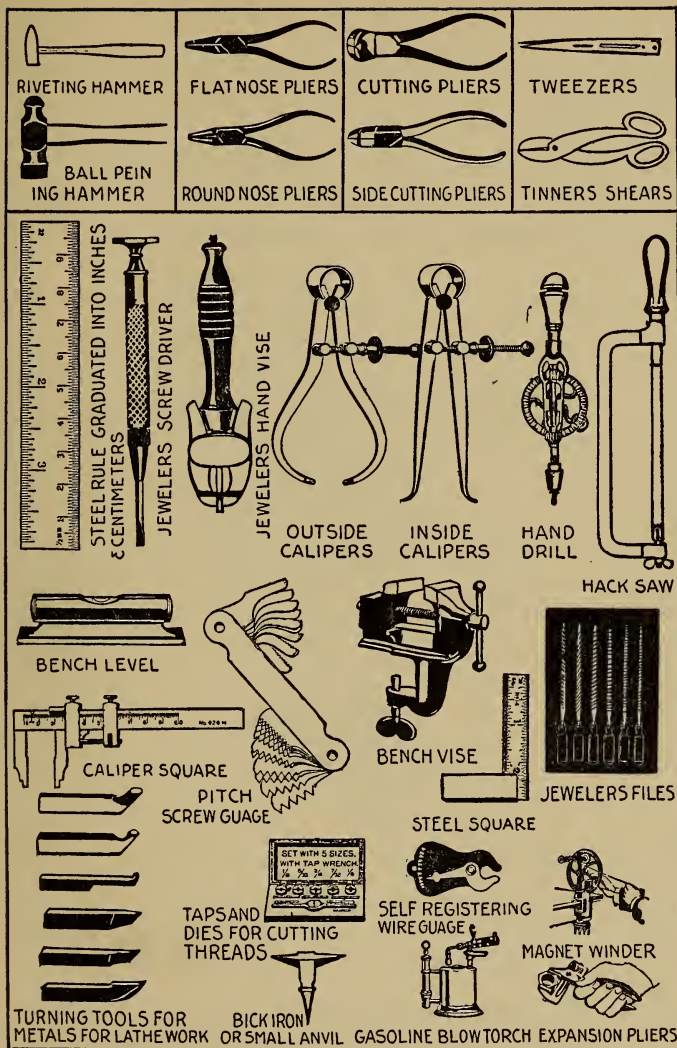

FIG. 68. SOME USEFUL JEWELERS' AND MACHINISTS' TOOLS
**The Tools You Need.**—To make a model of any description you need the usual tools that are the hand-servants of every jeweler and machinist, see Fig. 68,